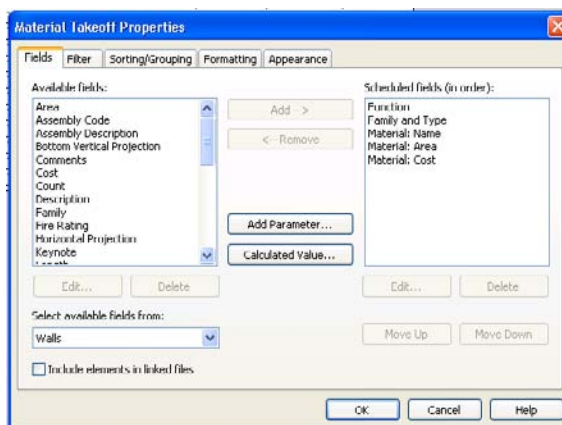

Figure 12.13
3. In the Material Takeoff Properties dialog box, add the following fields (Figure 12.13):